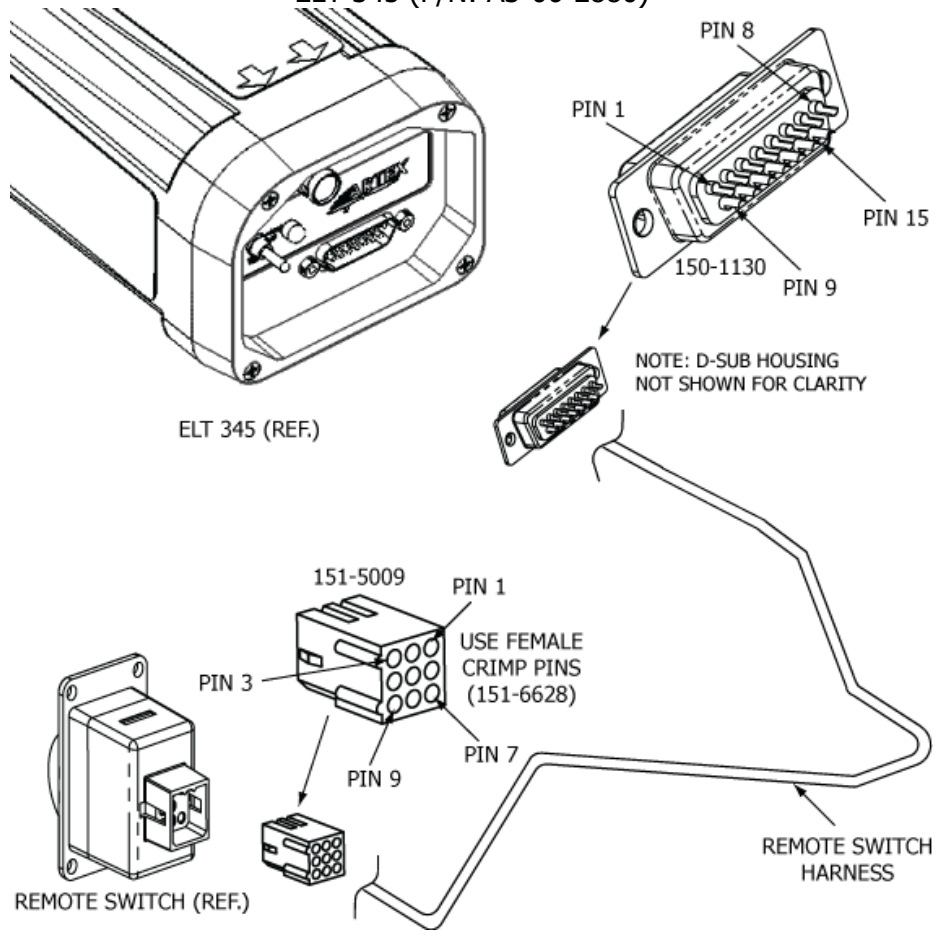

Figure 20 Remote Switch Harness Arrangement
- 1) See Figure 20 Remote Switch Harness Arrangement.